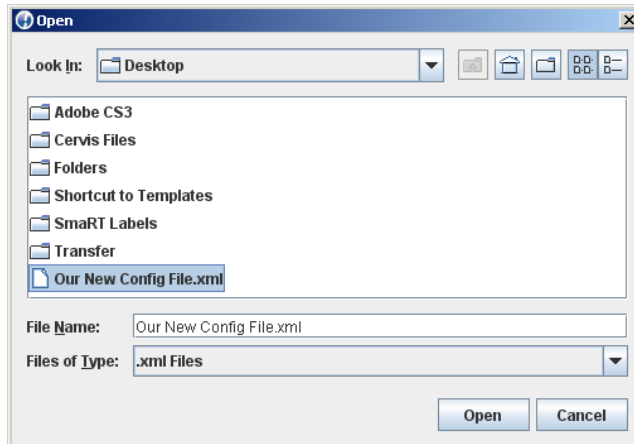

Figure 20
2. Select the file. It is placed in the **File Name** field as shown in Figure 20.